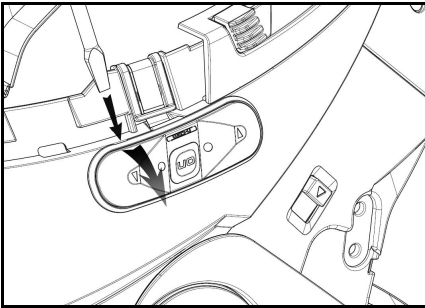

Fig. 7
- Remove the keypad from the shell, using a flat head screwdriver (or a similar tool) to lever upwards in the special hollow as shown in fig. 7.